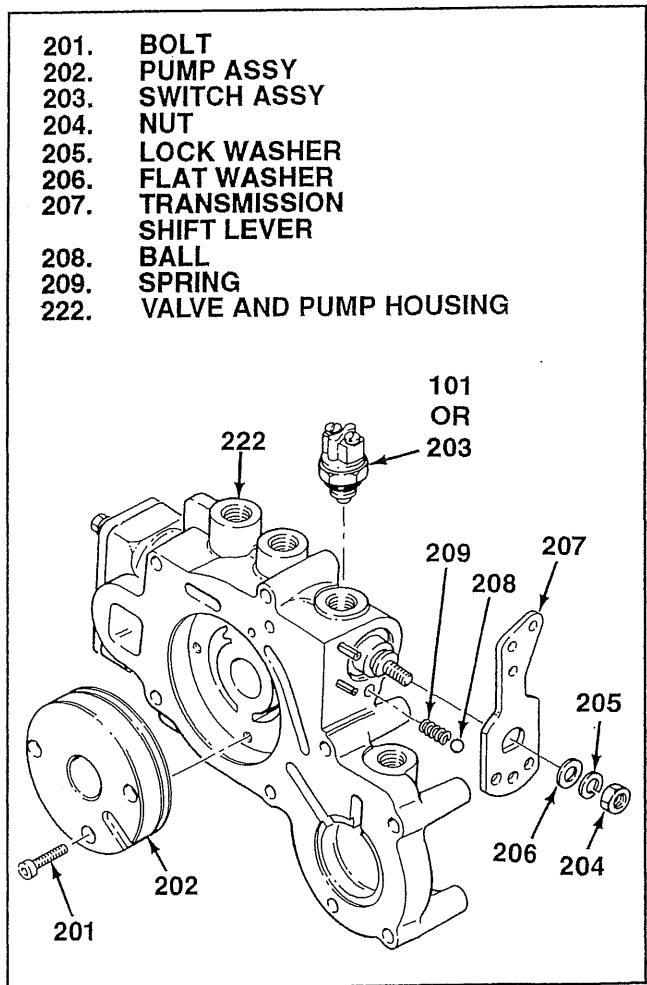

Figure 3-7. Pump, Switch and Transmission Shift Lever
**3-14. REMOVAL OF PUMP, SWITCH AND TRANSMISSION SHIFT LEVER.** Proceed as follows (see figure 3-7):
1. Remove three bolts (201) and pump assembly (202). The pump contains matched parts and must be replaced as an assembly if necessary.
2. Remove switch assembly (203) and temperature sensor (101) if used.
3. Holding transmission shift lever (207) to prevent control valve (211) from turning and ball (208) and spring (209) from flying out, remove nut (204). Remove lock washer (205), flat washer (206), shift lever (207), ball (208) and spring (209).